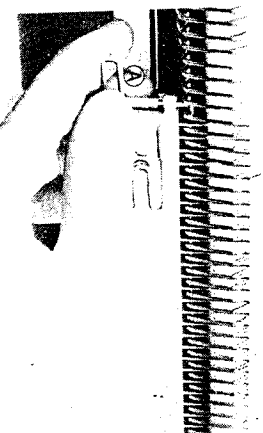

Fig. 34
Carefully unhook the comb from the pegs by turning the secure pin handle A of the cast-on comb hanger B and let the cast-on comb hang in the loops of wool. (See Fig. 34, 35)
3. Place hooks between pegs of needle bed as far up as possible. (See Fig. 34)